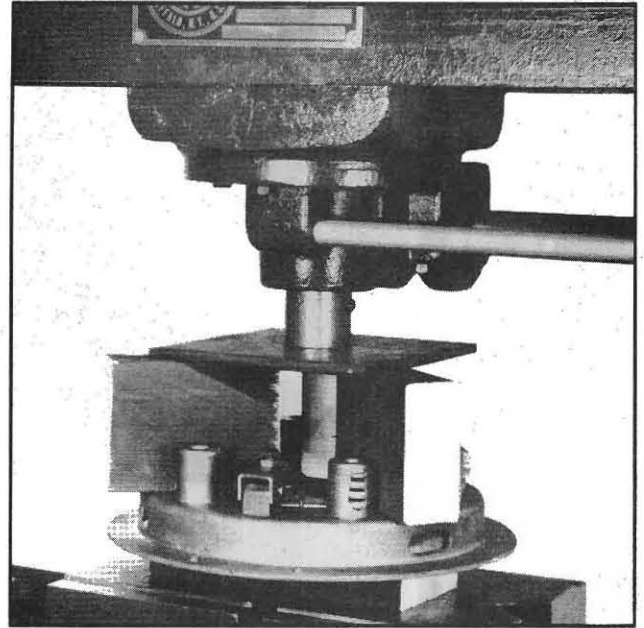

Fig. 121
1. Compress the clutch cover uniformly in a press, as shown in Fig.121, or by using C-clamps until the springs are compressed enough to release the pressure on the clutch levers.